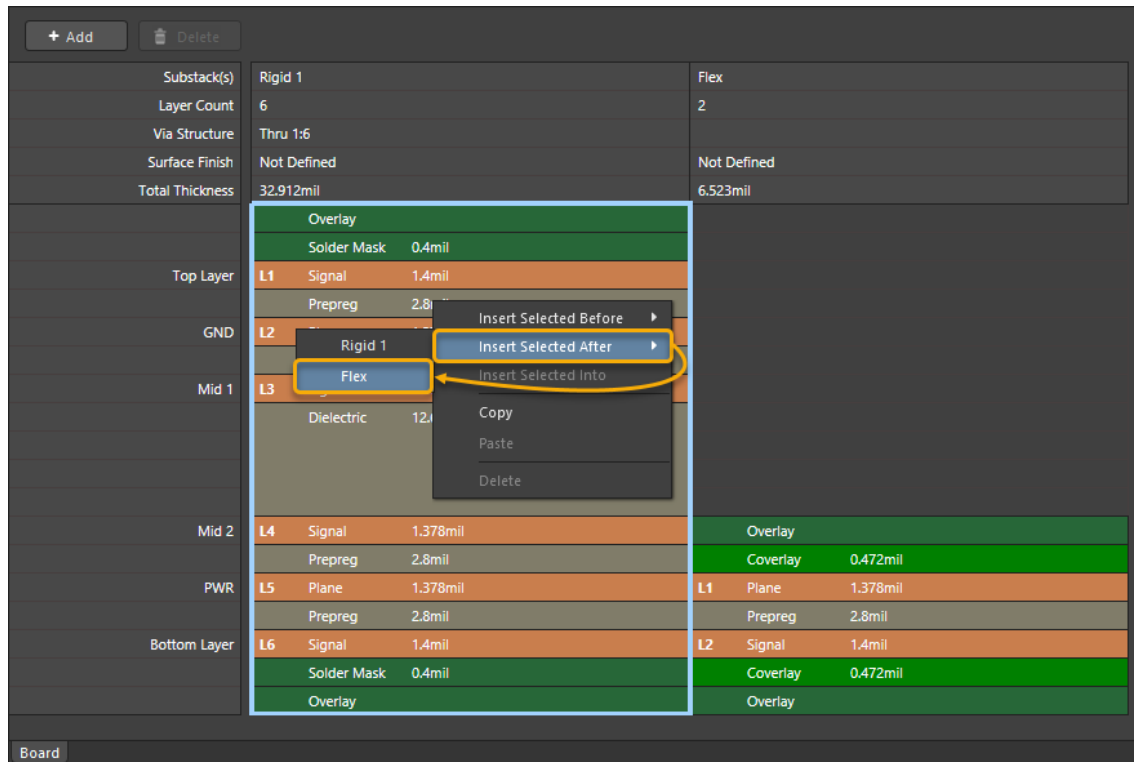

Figure 16. Adding a new third Stackup
- Right-click and select **Insert Selected After » Flex**, as shown in Figure 16.